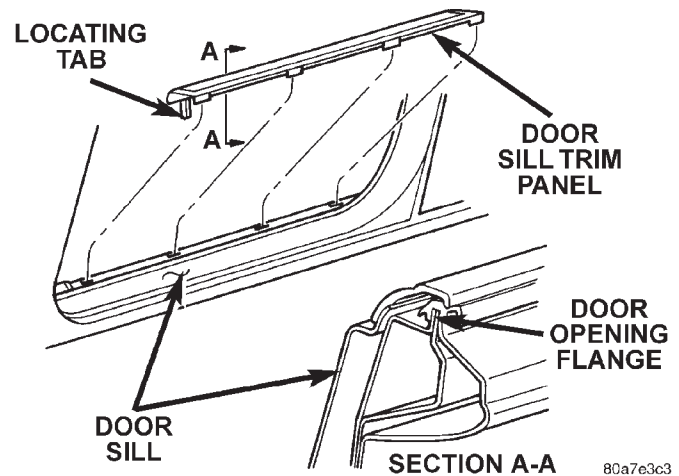

Fig. 52 Door Sill Trim Panel
- (1) Using a fork-type prying tool, disengage clips holding door sill trim panel to door sill (Fig. 52).